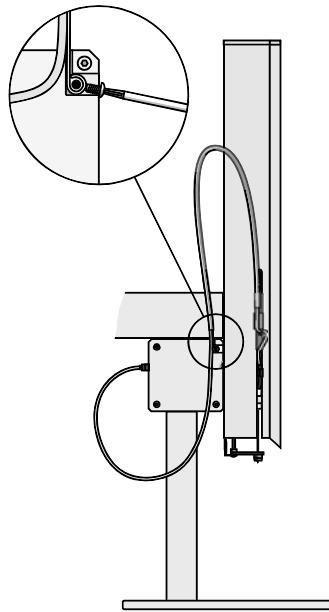

Figure 4. Connecting the Guide Wire to the X-axis End Cover.
1. Replace the X-axis end cover on the left side of the unit with the cover provided, which permits fixing the guide wire of the electrical cable. Connect the guide wire as shown in detail in Figure 4 below.